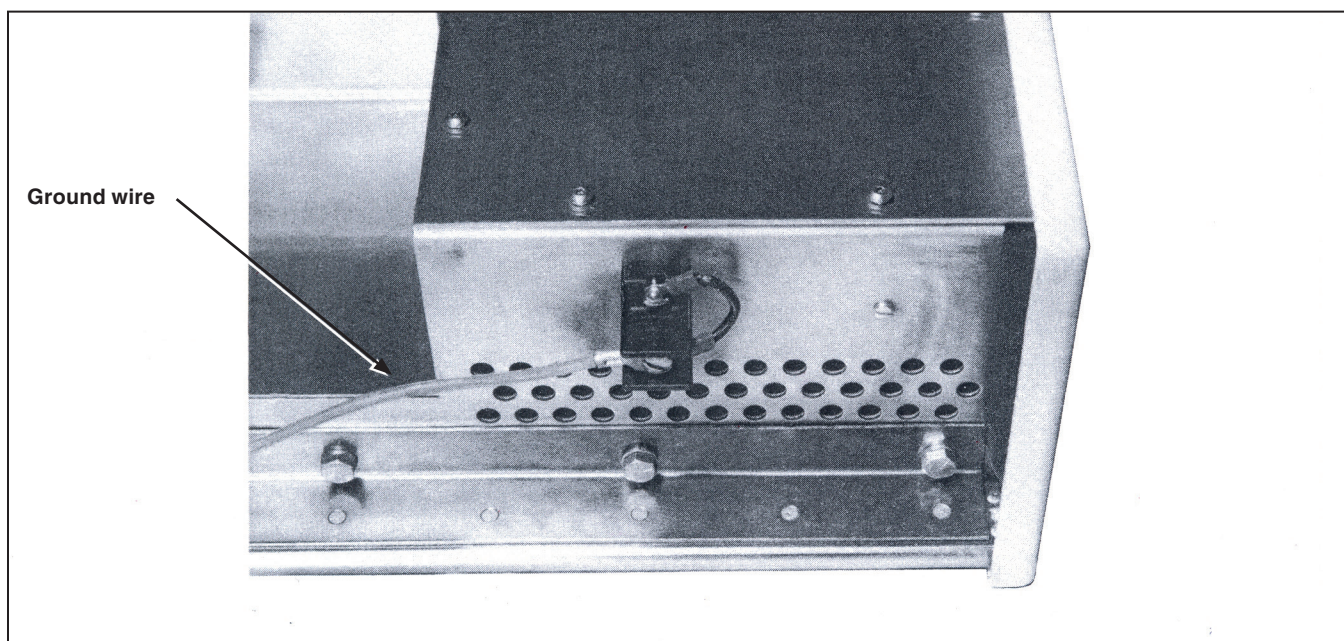

Figure 4. Disconnecting ground wire from underside of a Type AT control.
- STEP 8.** Disconnect the ground wire from the underside of the Type AT control enclosure. See Figure 4.